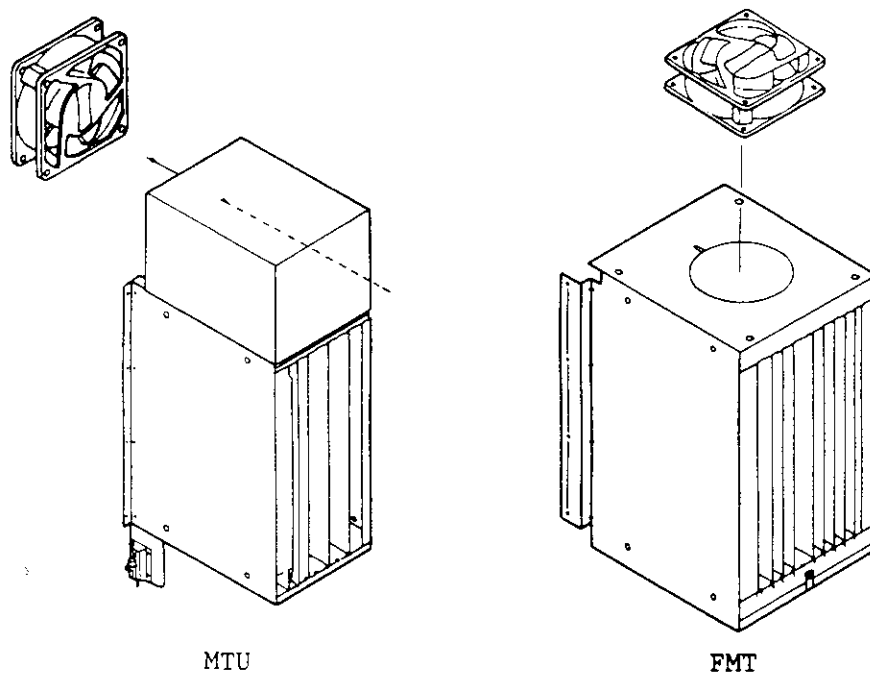

Figure L.37 FMT/MTU logic gate fans
- (1) Open the rear doors and disconnect the connectors from the fans shown in Figure L.37.
- (2) Remove four fan mounting screws and remove the fans.